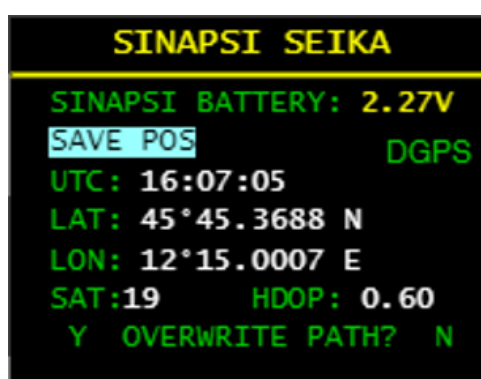

Fig 26 - SINAPSI GPS – Save position
Short press one of the two buttons to capture the position (Y) or not (N) as the indication suggest (**Fig 26 - on p. 19**)